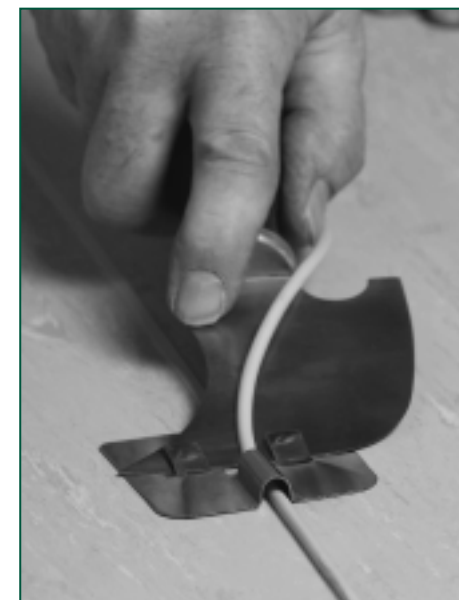

Figure 29 Trimming off the weld top layer
- A.** Place the trimming guide over the welding rod. Insert the spatula knife into the two lugs with the honed edge uppermost. Push the knife forward and trim off the top layer of welding rod (Figure 29). This can be done whilst the weld is still warm. Trimming the weld speeds up the cooling time.